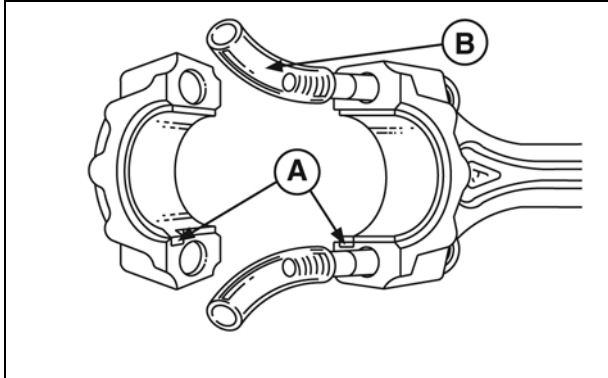

Figure 5
1. Install connecting rod bearings. Be sure tang on bearing is seated in notch (**A**, Figure 5) in connecting rod and cap.